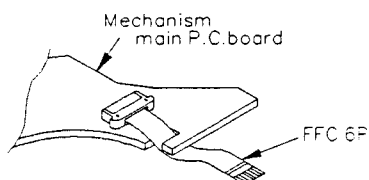

Fig. 4-15-9
9. Hereafter, mount the parts in reverse procedures. In this case, route the FFC6P as shown in Fig. 4-15-9.